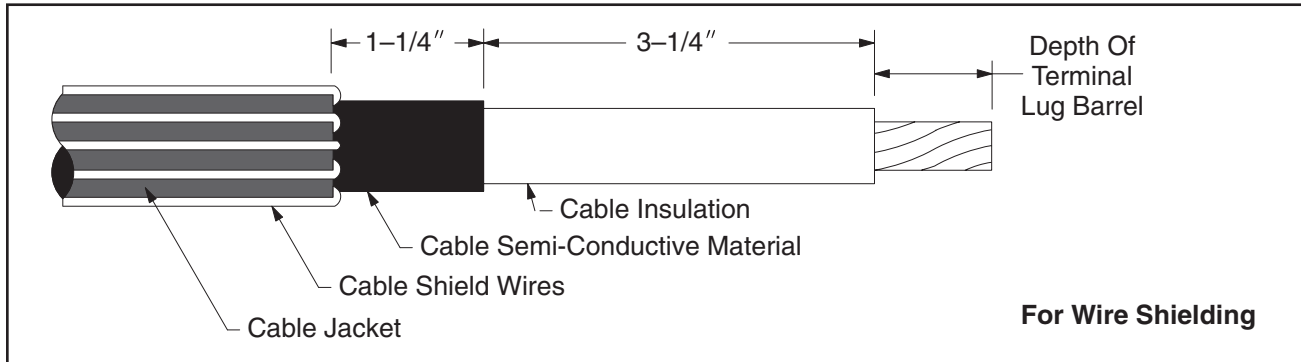

Figure 7b
**For Wire Shielded Cable** see *Figures 7b, 8b and 9b*.